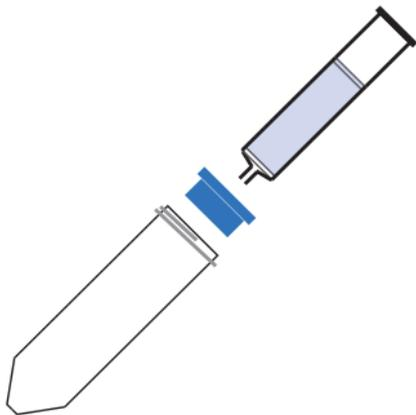

Fig 1. Assembly of column, adapter and collection tube.
For use in the spin protocol the PD-10 Desalting column should be assembled with adapter and collection tube as shown in Fig 1.
- Put the PD-10 Desalting column into a 50 ml collection tube by using the column adapter, see Fig 1.